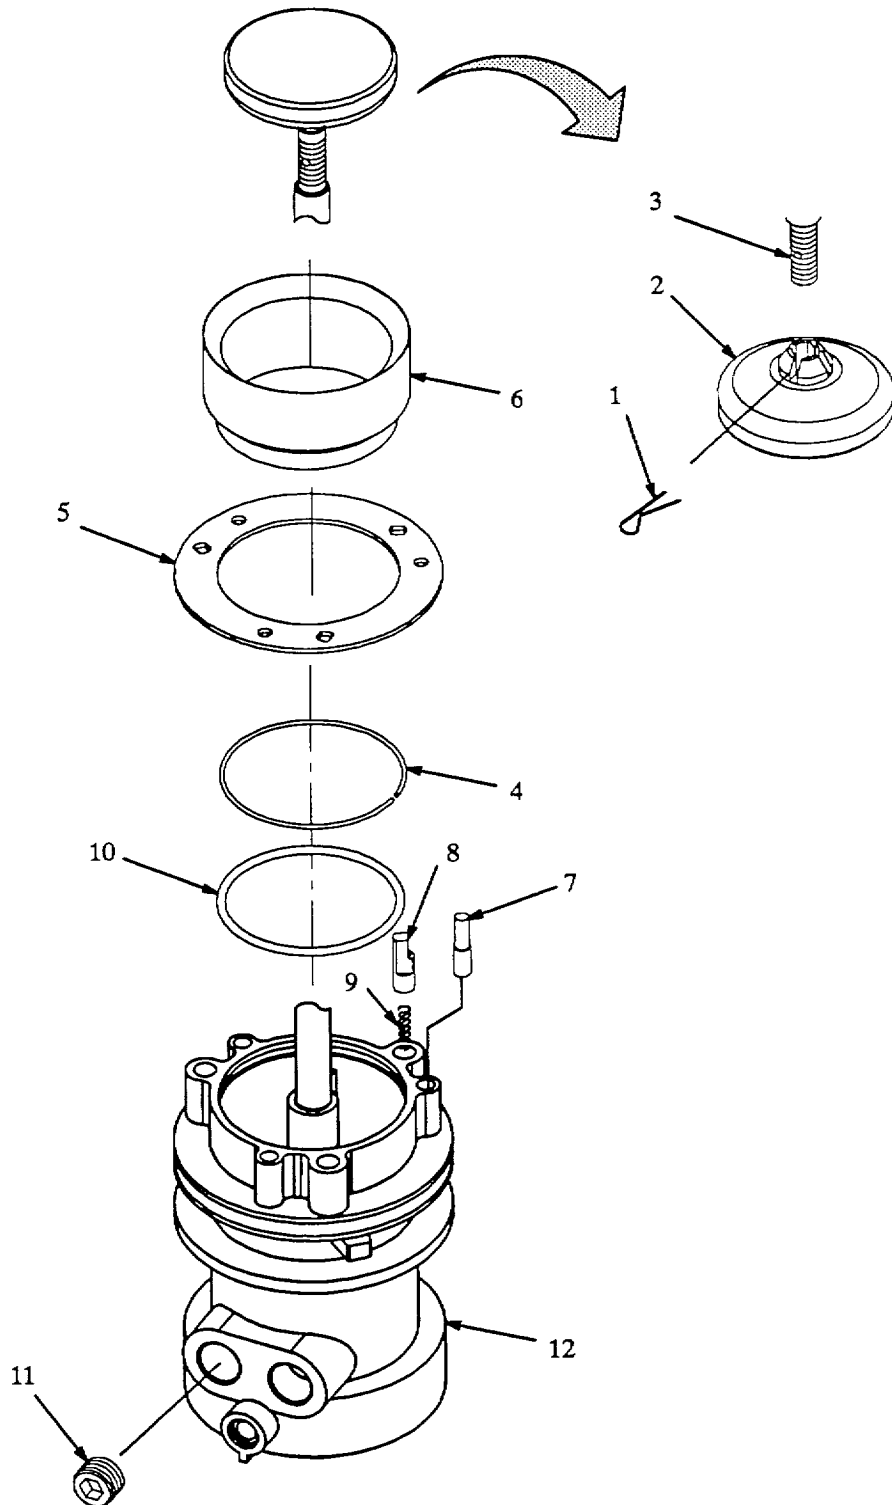
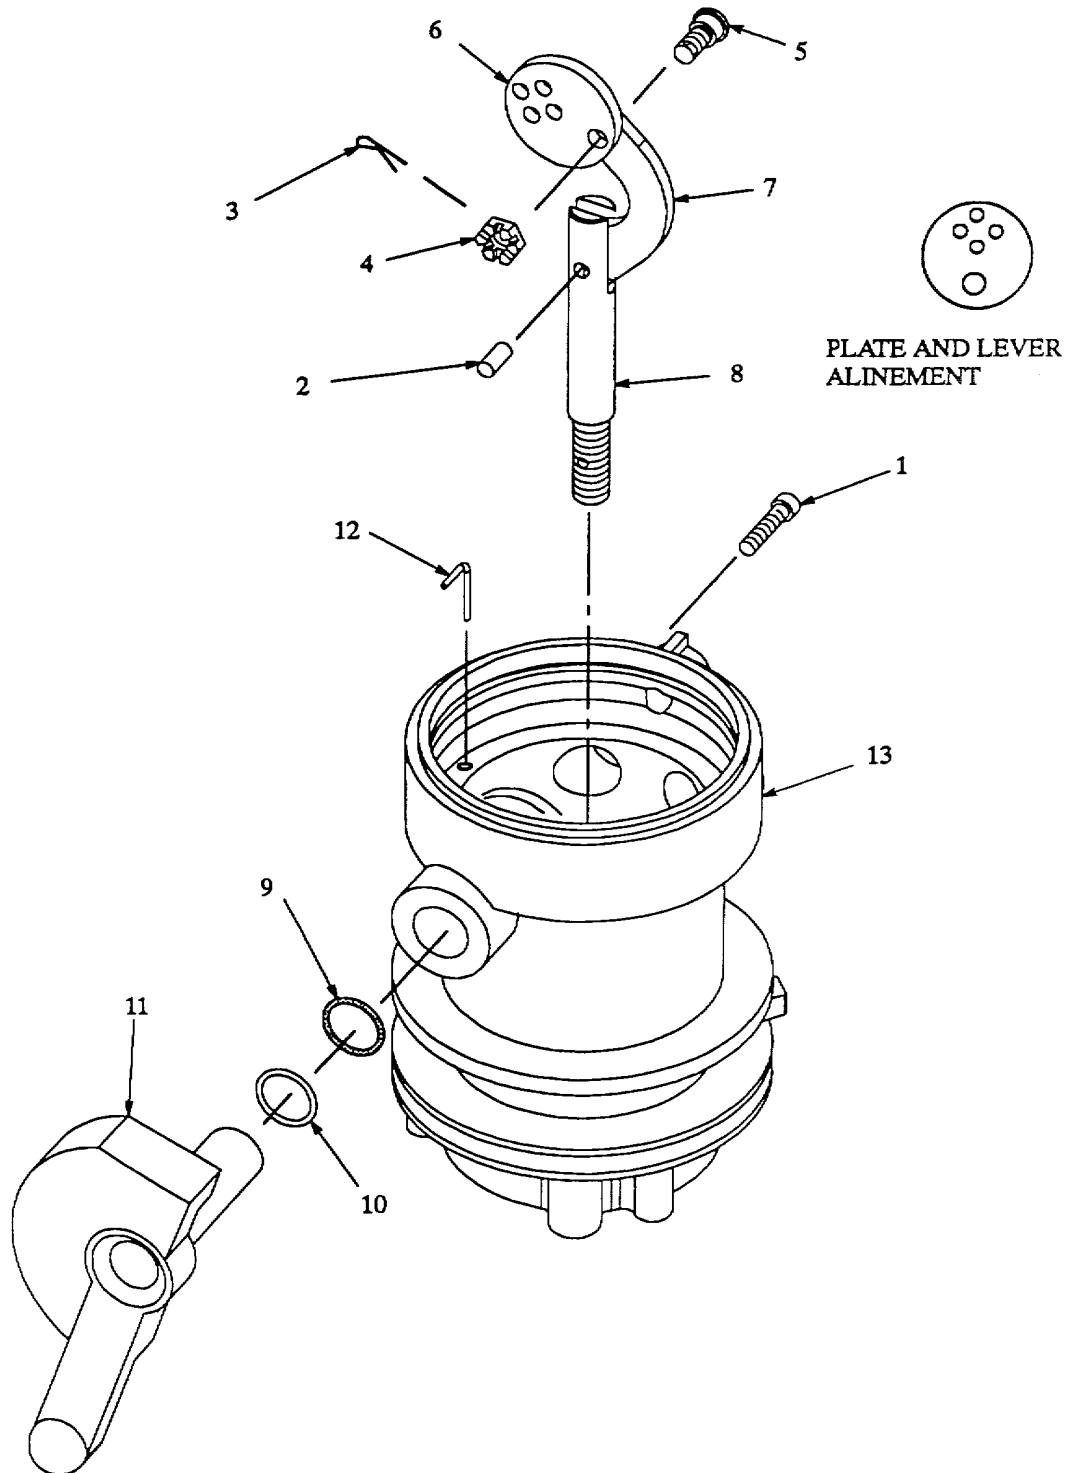

Figure 5-6. Nose seal Disassembly.
Figure 5-7. Control Linkage Disassembly.
- (1) Functional Test. Refer to figure 5-6.
- (2) Position collar (5) so that opening for balls (3) is pointing down.
- (3) Rotate body (9) back and forth on collar (5) until 49 balls (3) are removed.
- (4) Connect collar (5) to adapter (10).
- (5) Rotate body (9) to the left until index lug (7) aligns with groove r6) in collar (5).
- (6) Remove body (9) from collar (5).
- (7) Remove collar (5) from adapter (10).
- (8) If required, cut and remove bumper (4) from collar (5).
- (9) Position body (9) with poppet (2) pointing up, then rotate lever (8) to open position (poppet extended).
- (10) Remove cotter pin (1, figure 5-6) and unscrew poppet (2) from shaft (3).
- (11) Pull seal (6) and attached parts from body (12).
- (12) Remove snap ring (4) and plate (5) from seal (6).
- (17) Working through plug hole, remove four socket head screws (1, figure 5-7) that secure plate (6) to lever (11).
- (18) Lift plate (6) and attached parts from body (13).
- (19) Push out dowel pin (2) and separate link (7) from shaft (8).
- (20) Remove cotter pin (3) and nut (4) from pin (5).
- (21) Unscrew pin (5) from plate (6) and remove arm (7).
- (22) Remove ground clip (12) from body (13).
- (23) Remove lever (11), backup ring (10) and preformed packing (9) from body (13).
- (2) Inspect body (12, figure 5-6) for cracks, corrosion and damaged threads.
- (3) Inspect poppet (2) for damaged threads and corrosion or pitting along sealing surface.
- (4) Inspect shaft (3) for corrosion and damaged threads.
- (5) Inspect lever (11, figure 5-7) for cracks, damaged threads and corrosion.
(1) Push straight leg of ground clip (12, figure 5-7) into body (13). Make sure exposed portion of clip is pressed down tight and points towards outside of body (not inward).
(2) Position link (7) on shoulder of pin (5). Make sure bend in link is positioned as shown.
- (13) Apply anti-seize tape to threads of plug (11, figure 5-6).
- (14) Install plug (11) in body (12).
- (15) Lubricate preformed packing (10) with silicone compound, then install packing in body (12).
- (16) Install three index pins (7) in body (12).
- (17) Install springs (9) and lock pins (8) in body (12).